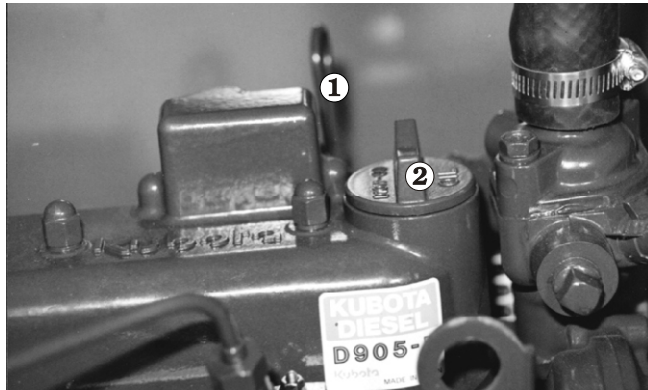

Figure 7.6 - Engine Oil Level
Keep the oil level between the marks on the dipstick ① (see Figure 7.6).
The distance between the top and bottom dipstick marks corresponds to about 1 qt. (one liter). Add oil, if needed at the cap ② (see Figure 7.6) on top of the engine.